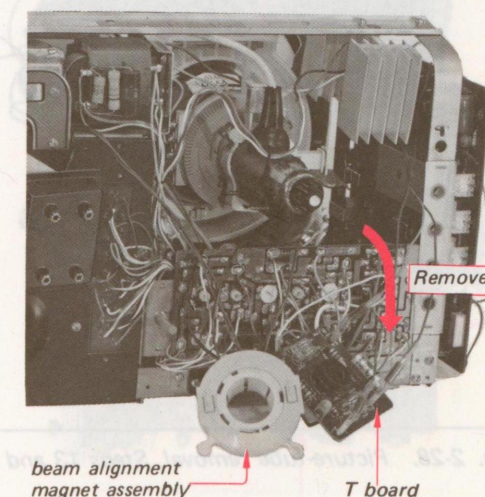

Fig. 2-27. Picture-tube removal, Step 10
10. Remove the beam alignment magnet assembly by loosening the clamp as shown in Fig. 2-27.